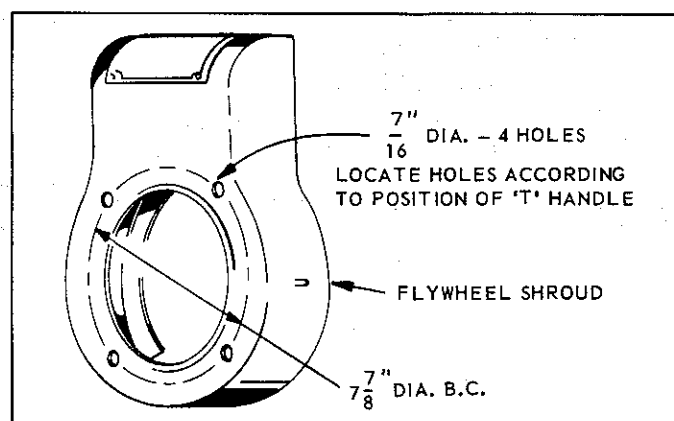

FIG. 4
- E. Drill four 7/16 inch diameter holes on the 7-7/8 inch diameter bolt circle, as illustrated in Fig. 4.